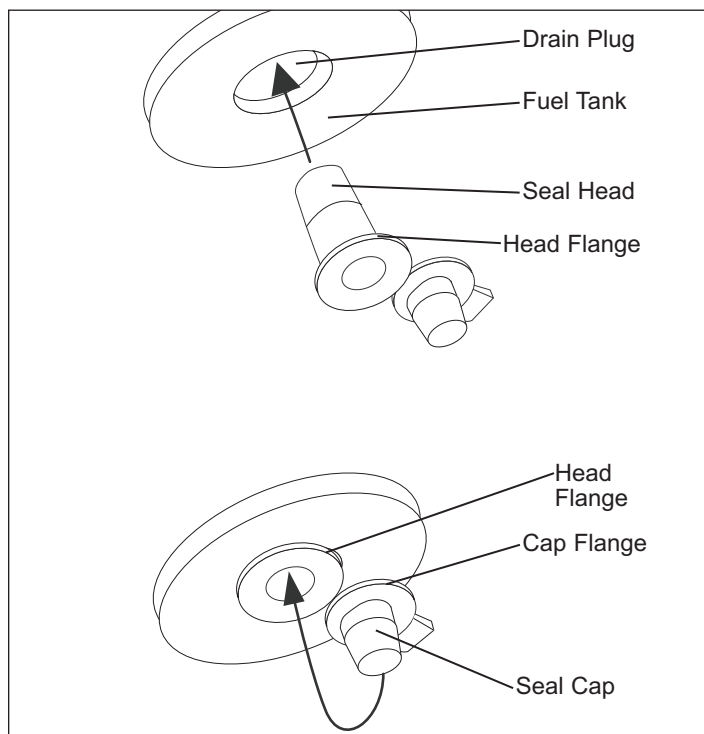

Figure 12: Drain Plug Reinstall
4. To replace, push the drain head fully into the drain hole and secure by pushing the seal cap fully into the head hole (See Figure 12).